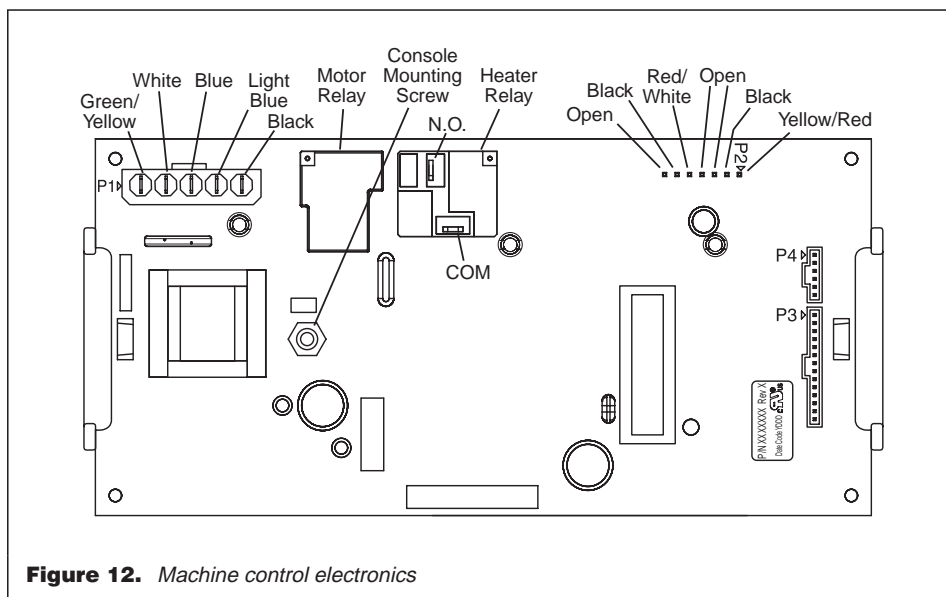

Figure 12. Machine control electronics
- Disconnect the ribbon cables at P3 and P4 on the machine control electronics. See figure 12 on page 7 for connector locations.
Remove all the wire connections to the machine control board. See figure 12, page 7.